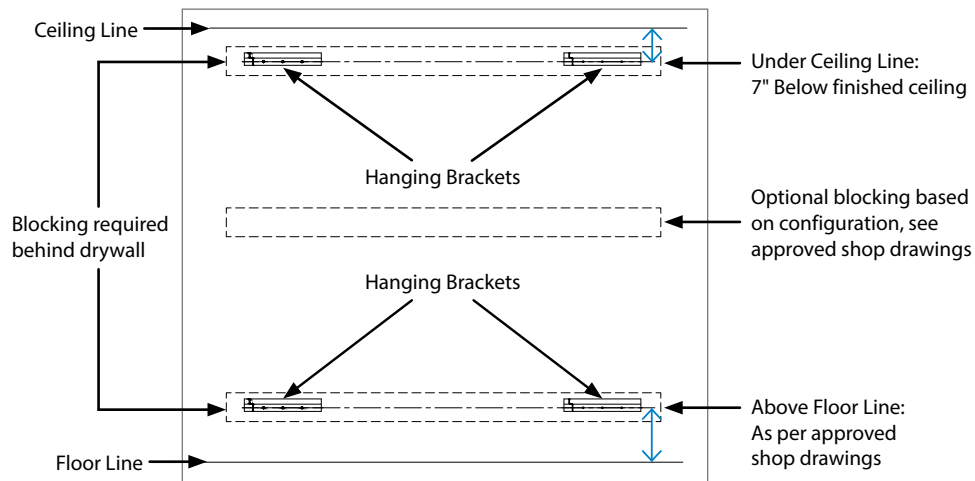

Figure 1
1. Mark two horizontal lines to locate drilling for mounting of hanging bracket on the wall as follows (**Figure 1**):